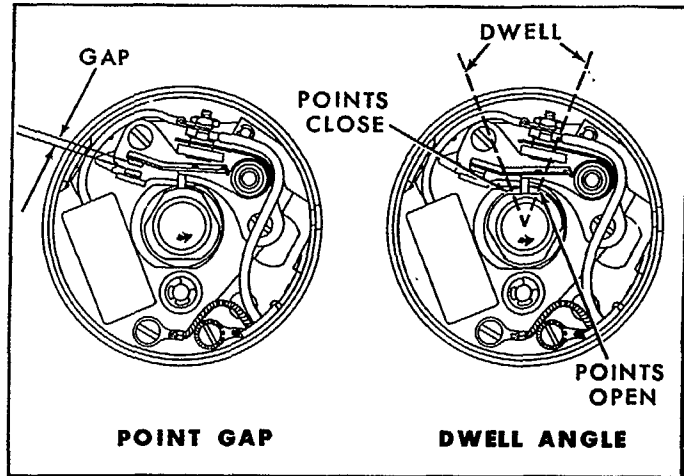

Figure 72
8. Check the ignition timing as outlined on page 49, under "IGNITION TIMING WITH A TIMING LIGHT." Adjust as necessary. See Figure 72.
9. Check the dwell angle as outlined on page 51, under "CHECKING IGNITION POINT DWELL ANGLE" Adjust as necessary. See Figure 72.
2. To adjust the breaker point gap, crank the engine slowly until the fiber rubbing block on the moving arm contact is on the high point of one of the distributor cam lobes, Figure 72. Turn the key-starter switch to the OFF position.